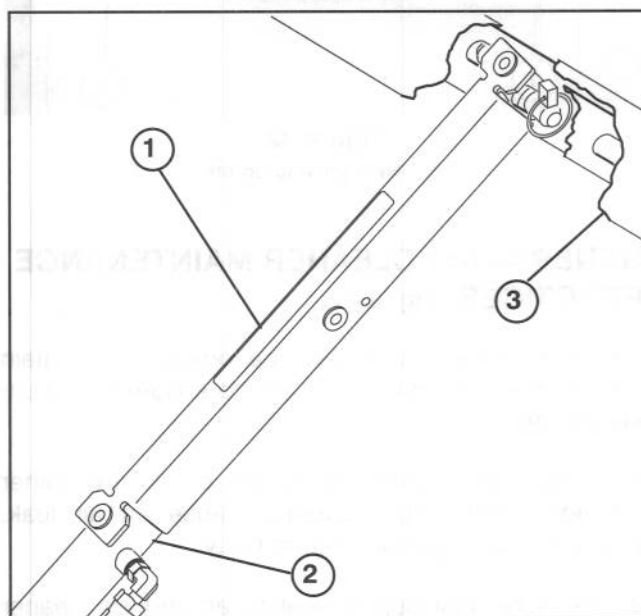

Figure 30
3. Push bed support onto cylinder rod, making sure support end tabs rest on end of cylinder barrel and on cylinder rod end (Fig. 30).